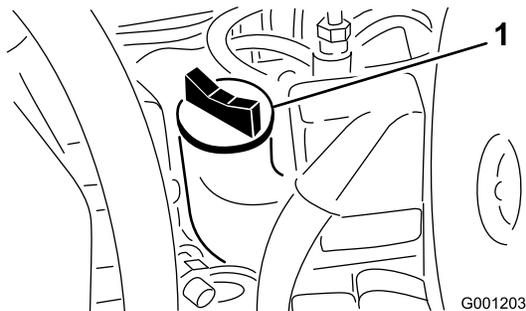

Figure 22
3. If the oil level is below the Full mark, remove the fill cap (Figure 22) and add oil until the level reaches the Full mark on the dipstick. **Do not overfill.**